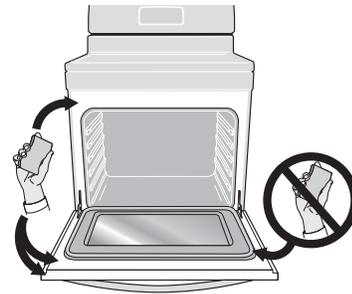

Figure 24: Areas to clean and to avoid
- Clean any soil from the oven frame, the door liner outside the oven door gasket, and the small area at the front center of the oven bottom (See Figure 24). These areas heat sufficiently to burn soil on. Clean using soap and water prior to starting Self Clean.